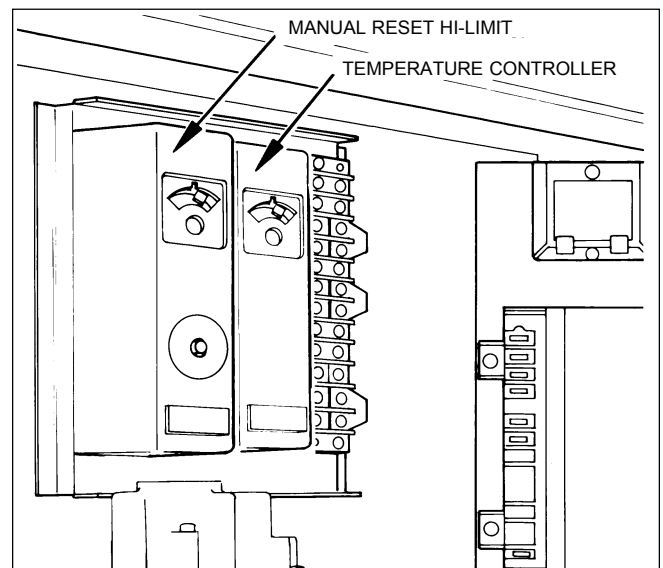

Figure 30. Temperature Controls.
Boilers are shipped with the temperature control sensor bulb located in the inlet side and the hi-limit switch sensing bulb is in the outlet side (see Figure 18). Set the temperature control (see Figure 30) at the designed system supply temperature less the
3. Set the temperature control (see Figure 30) to its lowest setting.
9. Set the temperature control to the desired setting (see Figure 30 and section 3A).